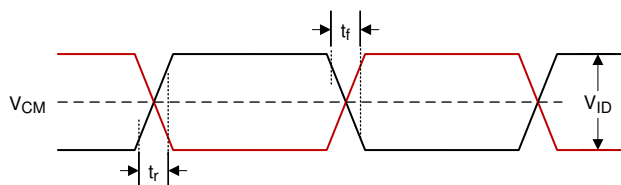

Figure 6-5. LVDS Waveform Requirements
- (12) See Figure 6-5 LVDS Waveform Requirements.
- (13) Supported for video applications only
- (14) Simultaneous exposure of the DMD to the maximum Section 6.4 for temperature and UV illumination will reduce device lifetime.
(2) See Figure 6-5 for Timing Requirements for LVDS.
(3) Channel A (Bus A) includes the following LVDS pairs: DCLK_AN and DCLK_AP, SCTRL_AN and SCTRL_AP, D_AN(15:0) and D_AP(15:0).
(4) Channel B (Bus B) includes the following LVDS pairs: DCLK_BN and DCLK_BP, SCTRL_BN and SCTRL_BP, D_BN(15:0) and D_BP(15:0).
(5) Channel C (Bus C) includes the following LVDS pairs: DCLK_CN and DCLK_CP, SCTRL_CN and SCTRL_CP, D_CN(15:0) and D_CP(15:0).
(6) Channel D (Bus D) includes the following LVDS pairs: DCLK_DN and DCLK_DP, SCTRL_DN and SCTRL_DP, D_DN(15:0) and D_DP(15:0).